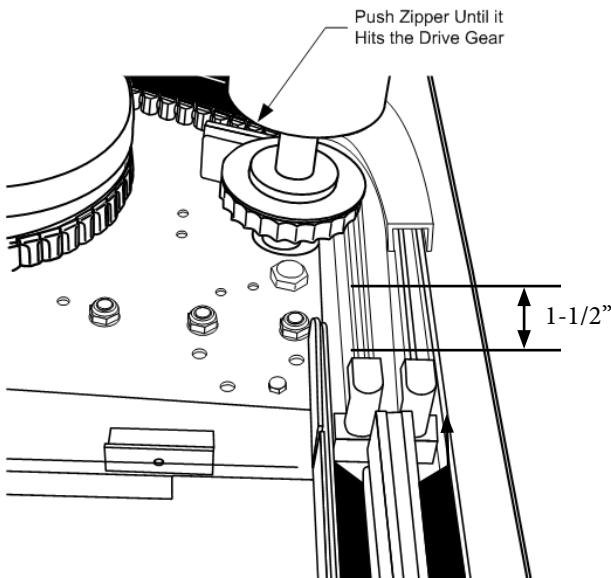

Figure 42: Door Open Position
- Press and release the JOG UP/RESET button until the door is in the desired open position (see Figure 42 & 43)